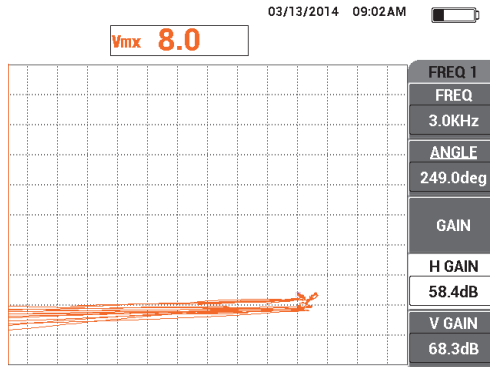

Figure 5-107 Adjusting the H GAIN for frequency 1
13. Lift the probe into the air, press the MAIN FILTER menu key (✂), and then, while gently tapping the probe on position 1, decrease the **H GAIN** (D key) of frequency 1 until the lift-off signal of the **MIX** channel is oriented nearly horizontally (see Figure 5-107 on page 203).